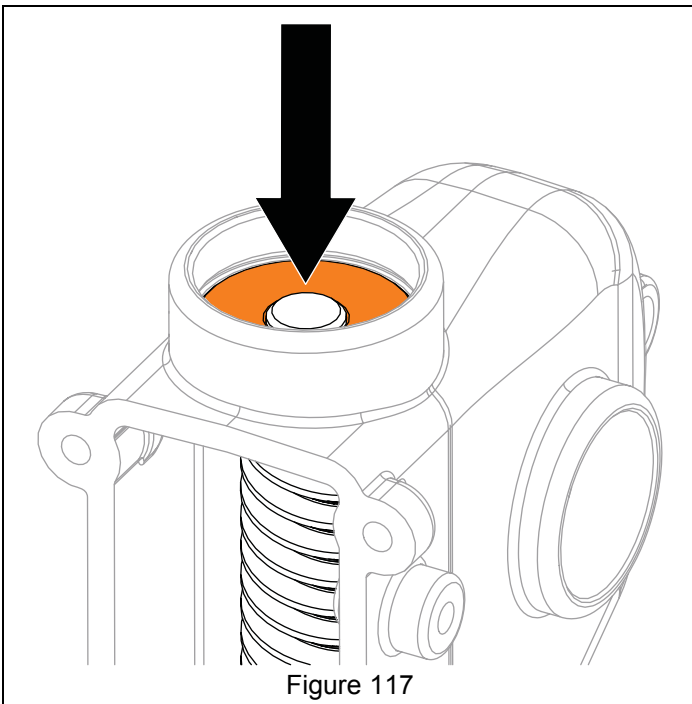

Figure 117
8. Reinstall flange bushing onto impeller shaft end. With a driver, strike bushing until positioned just below retaining ring groove. See Figure 117.